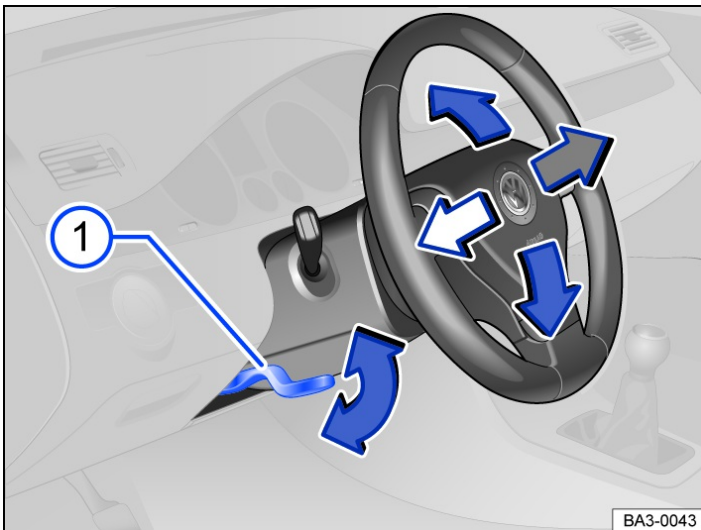

Fig. 1 Below the steering wheel in the steering column trim: lever for mechanical adjustment of the steering wheel position.
- Push down the lever → Fig. 1 ①.
- After adjusting the steering column, always move the lever → Fig. 1 ① up so that it engages securely. This prevents the steering column from moving spontaneously while the vehicle is in motion.